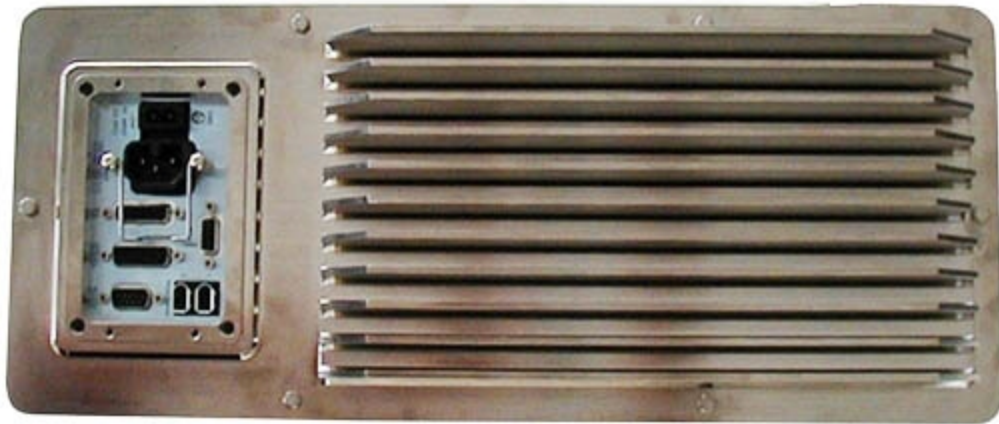

Figure 9-1. Securing Bolts on Chassis, AIB Shown
7. Once the chassis is in place, tighten the six M4 chassis-securing bolts. See Figure 9-1.